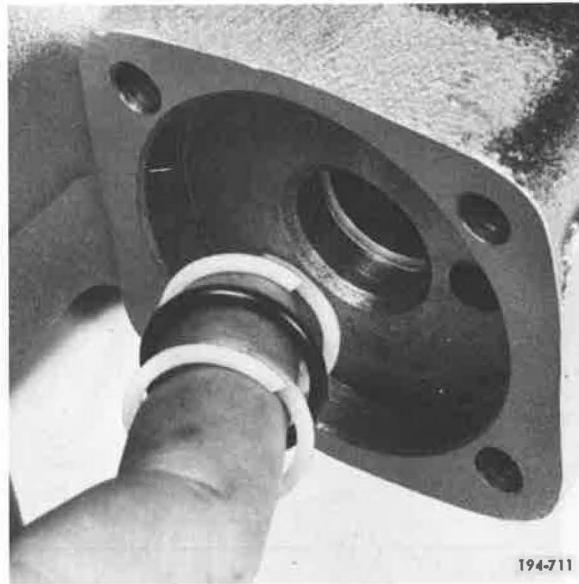

Figure 167. Removing O-Ring and Teflon Rings
23. Remove O-ring and two Teflon rings from both the reverse opening and the Lo/Hi opening of the shift cover. See Figure 167.